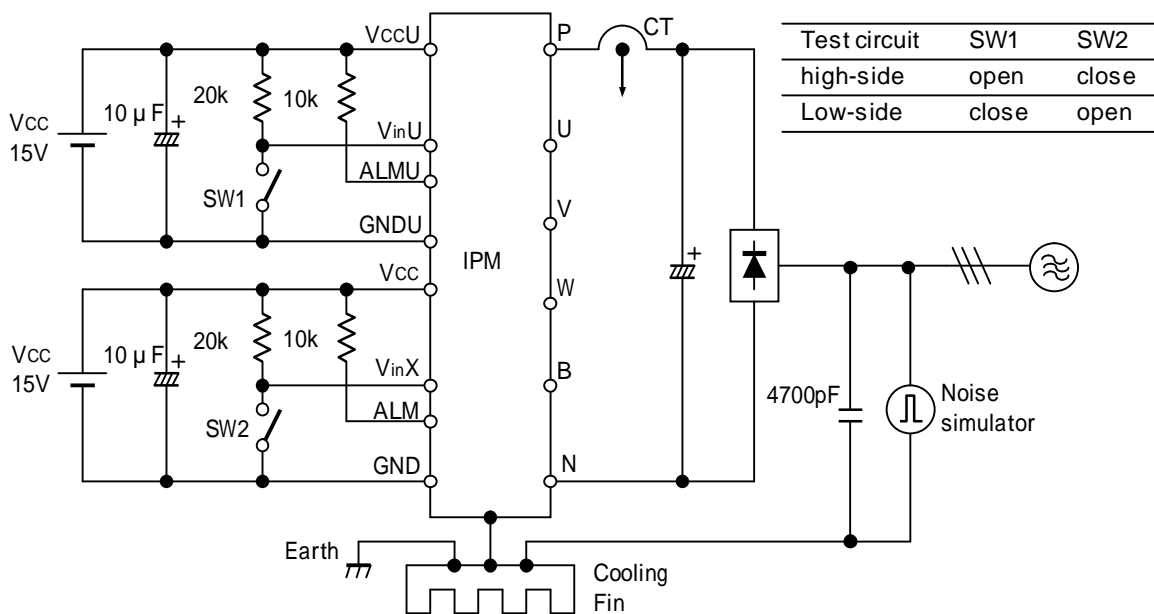

Figure9. Noise Test Circuit
7.Noise Immunity (VDC=600V, VCC=15V, Test Circuit Figure 9.)